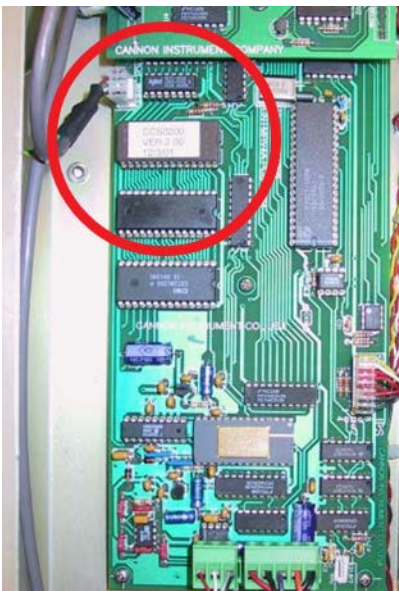

Figure 1: Micro-controller Board with EPROM highlighted
3. Locate the microprocessor or board stack and identify the EPROM component to be removed. Refer to Figure 1.